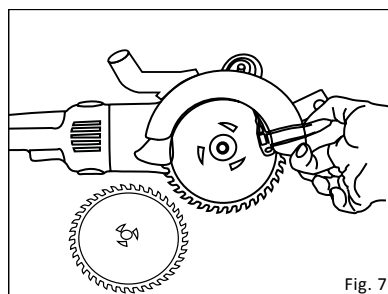

Fig. 7
5. Lift up and remove "Face B" blade. (fig. 7)